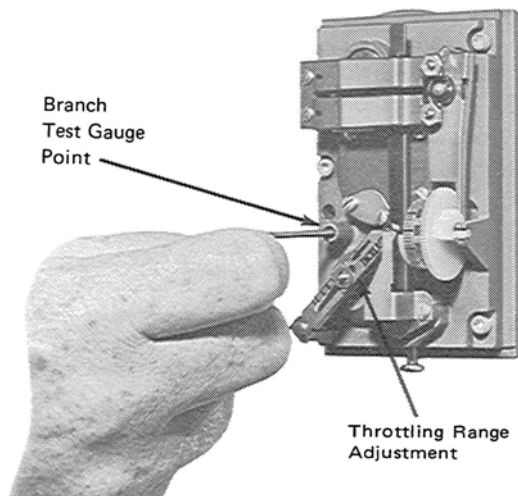

Figure-7
6. If the throttling range in Step 5 is not that desired, move the throttling range slider (Figure-7) in the appropriate direction and repeat Steps 2 through 5 until the desired throttling range is obtained.
2. Using a 5/64-inch Allen wrench, unscrew (counterclockwise rotation) the test point screw one full turn (Figure-7).